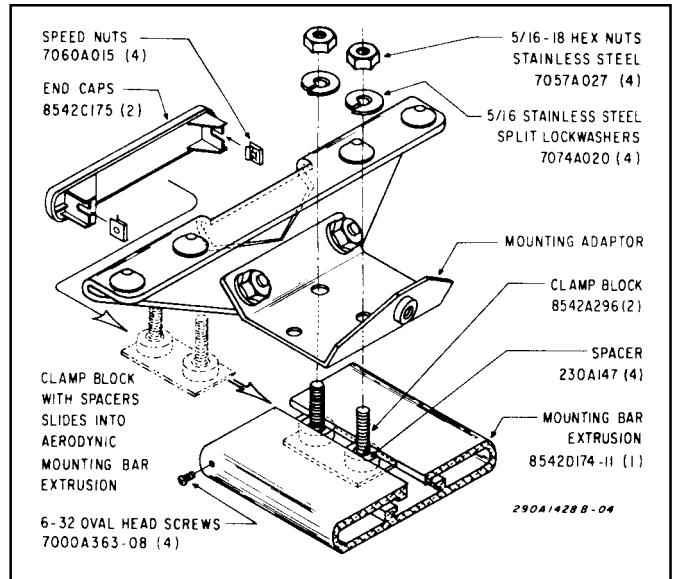

Figure 7.
10. Assemble the clamp block and spacers to each mounting adaptor with 5/16-18 hex nuts and split lockwashers as shown in figure 7.
11. Slide the clamp block of a mounting bracket assembly into the slot in the mounting bar as shown in figure 7. Slide the clamp block of the other mounting bracket assembly into the same extrusion slot from the other end.
12. Insert two U-type speed nuts into each end cap (see figure 7). Insert end cap in end of mounting bar. Use two #6-32 oval head screws to secure end cap to mounting bar.